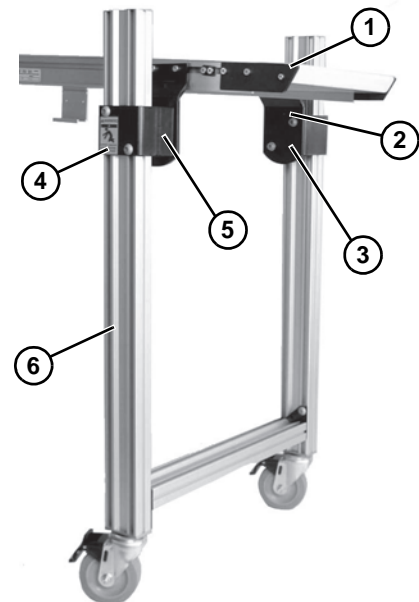

Figure 13
1. Support conveyor section (**Figure 13, item 1**).
2. Loosen two flange socket head screws (**Figure 13, item 2**) on each pivot bracket (**Figure 13, item 3**).
3. Loosen two button head screws (**Figure 13, item 4**) on each leg support (**Figure 13, item 5**).
4. Slide both leg supports (**Figure 13, item 5**) up or down on stand legs (**Figure 13, item 6**) to the required height. If necessary, adjust height of each leg support until conveyor is level from side to side.
Failure to secure screws (Figure 13, item 4) may cause conveyor sections to drop down causing severe injury. TIGHTEN SCREWS (Figure 13, item 4) AFTER ADJUSTMENT.
5. Tighten four button head screws (**Figure 13, item 4**) to 17 ft-lb (22.5 N-m).
6. Tighten four flange socket head screws (**Figure 13, item 2**) to 24 ft-lb (33 N-m).